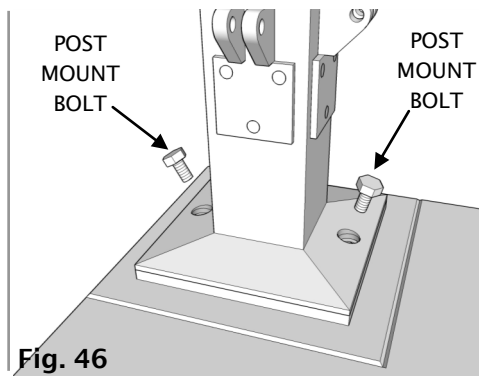

Fig. 46
Secure the Post with 2 Post Mount Bolts (S) (Shipped with each Railing Post) (Fig. 46).